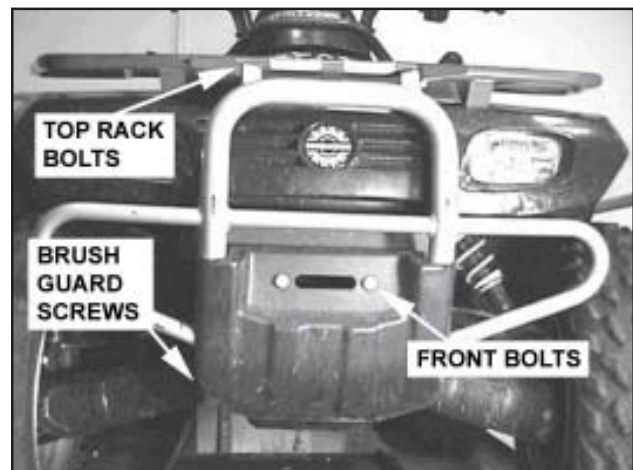

Figure 1
1. Using a 13mm wrench and socket, loosen the top bolts that are attached to the rack (leave nuts on the bolts, leaving the grey bumper still attached and loose). Then remove the black plastic brush guard, using a Phillips screwdriver and the 10mm wrench to remove the bottom screws. Use a 15mm wrench to remove the front brush guard bolts, **Figure 1**.